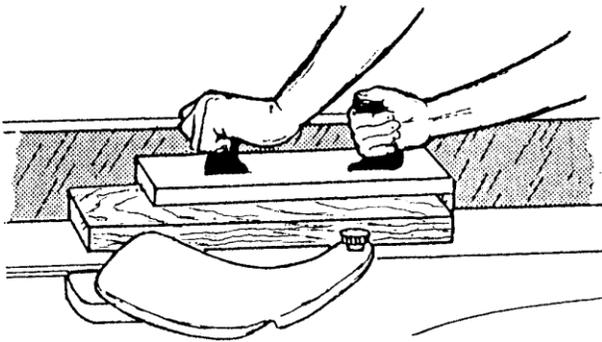
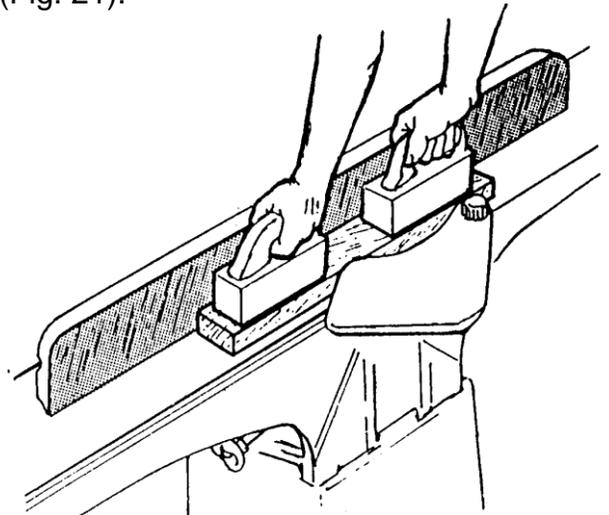
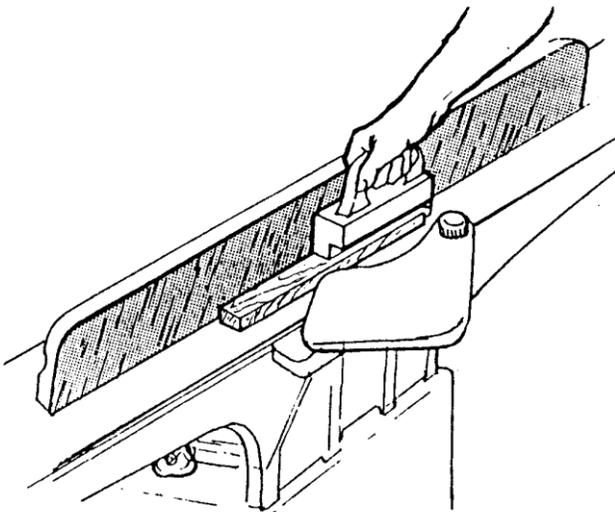
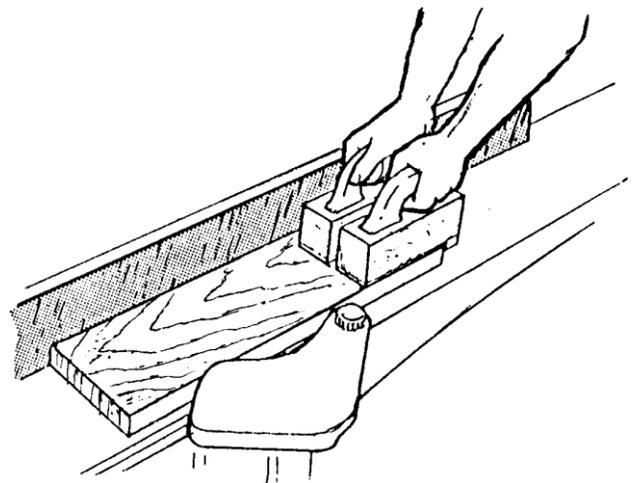

Fig. 18: Two handed push block.
Fig. 19: Two push blocks for stock longer than 12 inches.
Fig. 20: L-shaped push block for narrow stock.
Fig. 21: Two push blocks with dowels for short stock over 4 inches wide.
Never surface pieces shorter than 12" (305mm) or thinner than 3/8" (9.5mm) without the use of a special work holding fixture. Never surface pieces thinner than 3" (76mm) without the use of a push block. On stock 8" (203mm) to 12" (305mm) long use a single two-handed push block (Fig. 18). On stock longer than 12" (305mm) use two push blocks (Fig. 19). With narrow stock use an "L" type push block as shown in Fig. 20. When surfacing short stock over 4" (101mm) wide, use two (2) push blocks to guide material over cutterhead (Fig. 21).